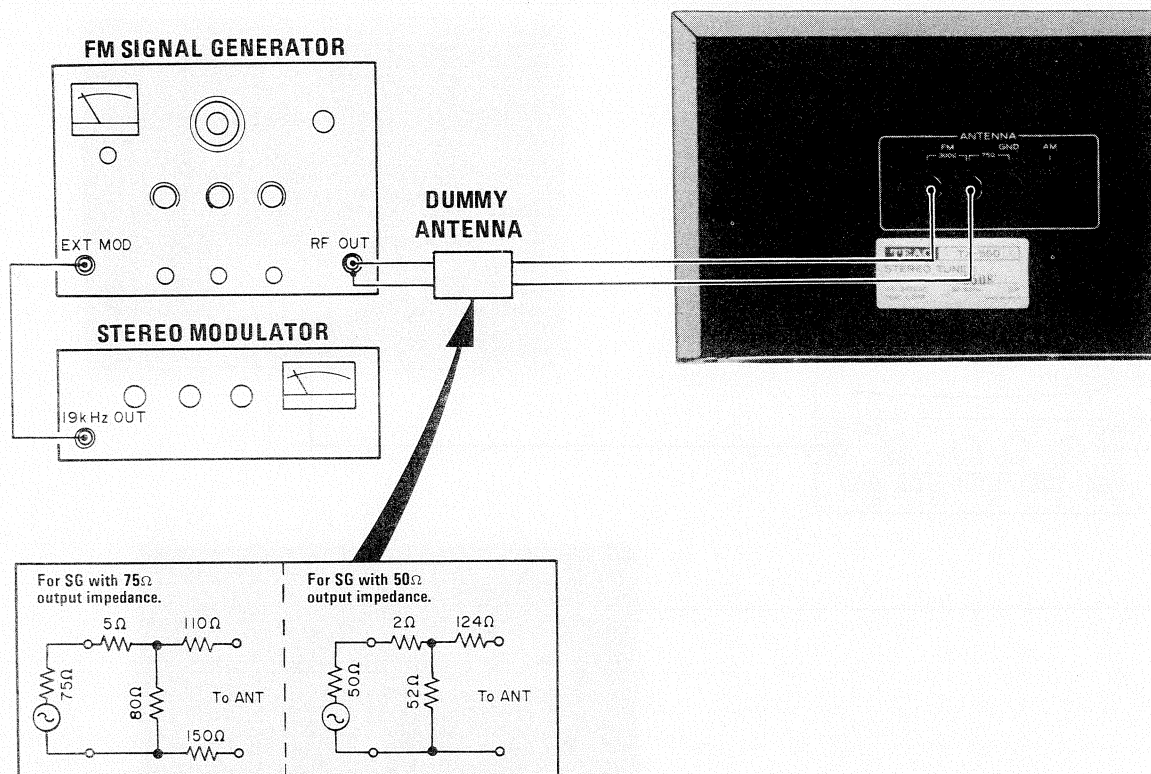

Fig. 3
<p>After the above procedures have been followed, connect an FM signal generator to the TX-550(B) as shown in Fig. 3 and set both pieces of equipment as follows :</p> <div><div>TX-550(B) HI BLEND : OUT MUTING : OUT MODE : MONO</div><div>FM signal generator Frequency : 106 MHz Modulation : 1 kHz, 100 % (75 kHz deviation) Set the output level so that the TX-550(B) input is between 50 to 60 dBf. (See NOTE 1 on page 7.)</div></div> <p>NOTE: If there is a difference in the output level between the channels and/or extreme distortion occurs, skip to Item 8, "Separation Adjustment", before beginning Item 2, "Detector Adjustment".</p>